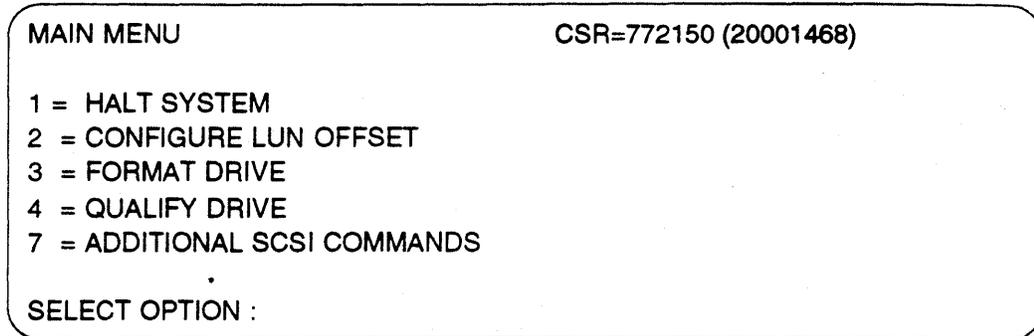

Figure 4-2: Main Menu
- 9 Enter the corresponding CSR address for the CQD-440. The Main Menu will appear as shown in Figure 4-2.